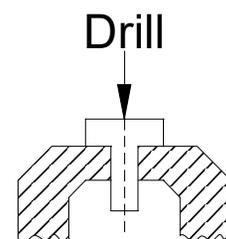

Figure 8
17. There are 4 small recessed squares on each side of the top of the Bolsters – these sockets held the Bolster pins which were equally spaced according to the width of the load (see **Figure 7** which is a view of the top of the Bolster). Use a 0.33mm drill bit to drill a pilot hole through the middle of 1 socket each side of the Bolster. The part of the Bolster under the top piece is only 0.8mm wide, so it is a little difficult to drill straight down without drilling out through the Bolster side. To avoid this as much as possible, hold the Bolster in a vice as show in **Figure 8**. If the drill bit does veer off line, the jaws of the vice will guide it back – you may find that the brass wire shows out of the side of the Bolster, but after the wire is secured in place, run a file over the wire to flatten it and after painting, it will not show.